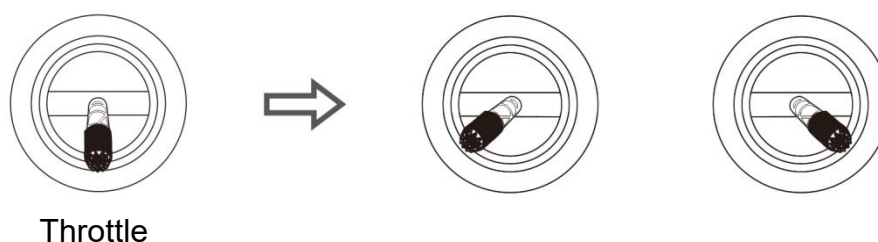

Figure 2-3-4 Land and Lock
**Step 2:** After the drone lands, place the throttle stick to the down position, and then perform the locking action as shown in Figure 2-3-4.